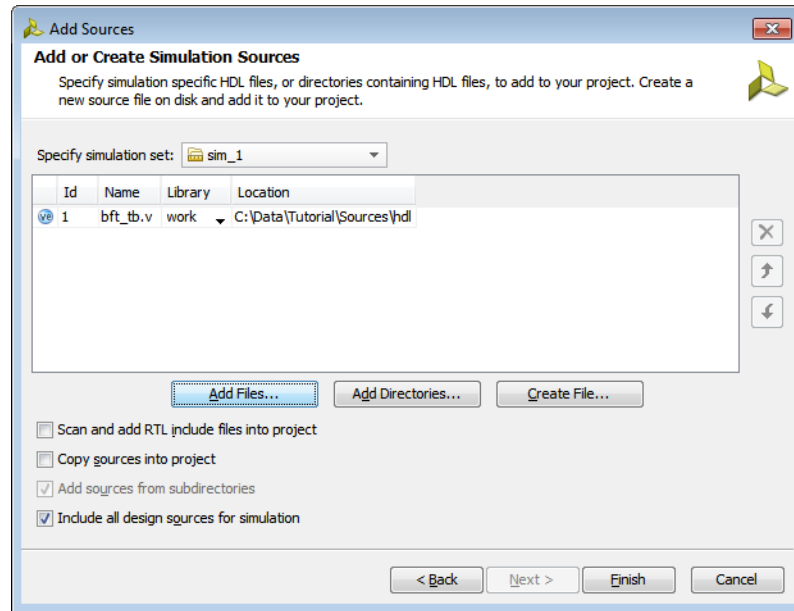

Figure 3-13: Add Sources Wizard—Add or Create Simulation Sources Page
3. In the Add or Create Simulation Sources page (Figure 3-13), set the following options, and click **Finish**.